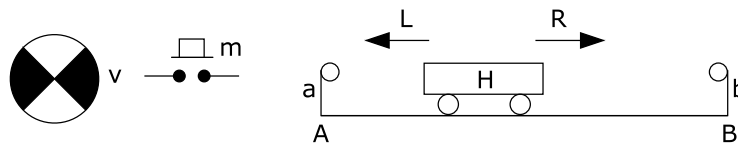

Figure 6
9. A truck H is able to move between positions A and B (Figure 6). The presence at A is represented by the Boolean variable $a = 1$. Likewise $b = 1$ when the truck is at B . An order is given to the truck H by button m ($m = 1$ when this button is pressed). The rest position (initial state) is A . The outputs of the control system are R ($R = 1$, movement to the right), L ($L = 1$, movement to the left).